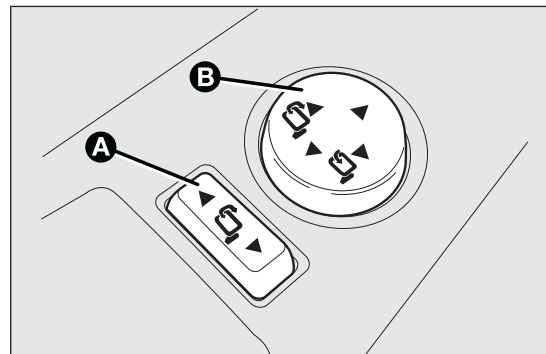

fig. 38
- ☐ position selector A fig. 38 in neutral position (no mirror selection);
- ☐ fold the mirror using joystick B in the side directions fig. 38;